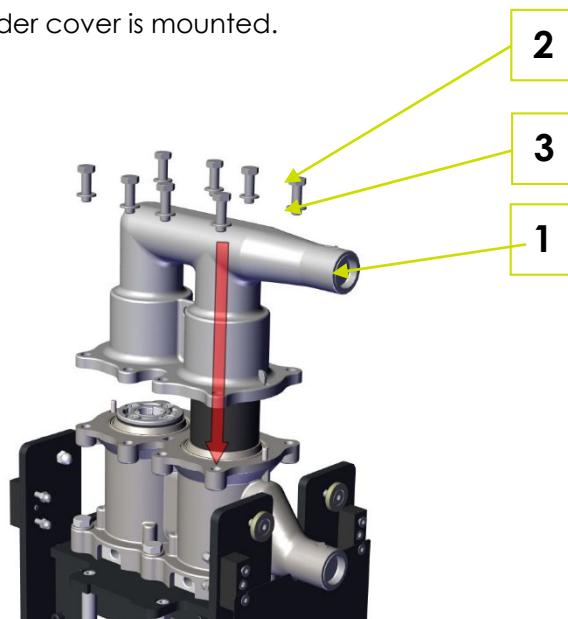
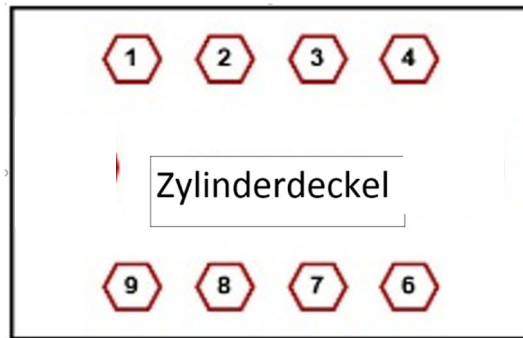

Fig. 5-3: Mounting the cylinder cover
Fig. 5-4: Numbering of the fillister head screws
1. Clean the cylinder cover (1) and fit it back on the cylinder block (Fig. 5-3: Mounting the cylinder cover).
2. Hand-tighten all eight M10x30 hexagon screws (2) greased with assembly grease (Renolit Unitemp 2), with the washers A10.5 (3).
3. Tighten all eight hexagon screws M10x30 (2) to a torque of 40 Nm in the sequence 2-7-3-8-1-6-9-4 (Fig. 5-4: Numbering of the fillister head screws).